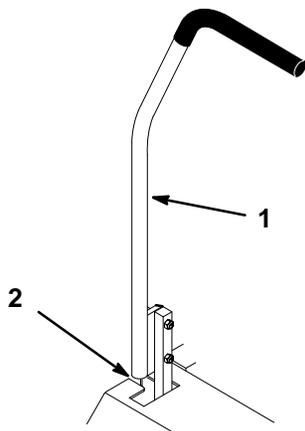

Figure 44
3. Check where lever is relative to notch in console (should be centered allowing lever to pivot outward to the neutral lock position (Fig. 44).